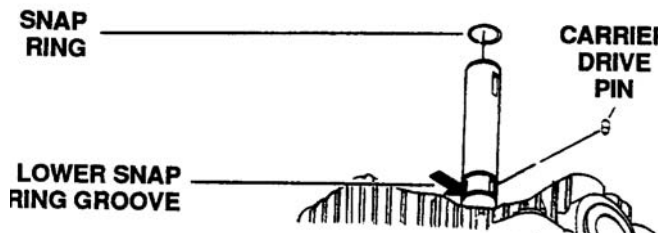

Figure 6-122. Installing Lower Snap Ring
- For charge pumps with bushings, install snap ring in lower groove (against plate) of input shaft. See Figure 6-122.